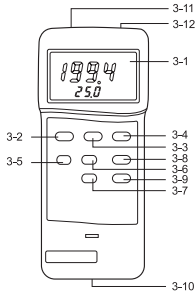

Fig. 1
1. Push the "power off button" (3-2, Fig. 1) to let the instrument power "ON".
2. Determine temperature unit to °C or °F by pushing the "°C/°F Button" (3-4, Fig. 1) Then the display will show the temperature unit of °C or °F.
(3-8, Fig. 1) until the display show the marker "T1" display will show the temperature reading that measured from the probe.
- a. Insert second temperature probe plug into the "T1 Socket" (3-11, Fig. 1).
- b. Insert second temperature probe plug into the "T2 Socket" (3-12, Fig. 1).
- c. The main display (upper display) will show the temperature reading of the first probe (T1) & the lower display will show the temperature reading of second probe (T2), push the "Function Button" (3-8, Fig. 1) until "T1" appears on the display.
- d. The main display (upper display) will show the temperature reading of second probe (T2) & the lower display will show the temperature reading of the first probe (T1), push the "Function Button" (3-8, Fig. 1) until "T2" appears on the display.
- e. The main display (upper display) will show the differential temperature reading of the first and second probe (T1-T2) and the lower display will show the temperature reading of the first probe (T1), push the "Function Button" (3-8, Fig. 1) until "T1-T2" appears on the display.
1. During the measurement. Push the "Data Hold Button" (3-3, Fig. 1) will hold the display values & LCD will show the "D.H" marker.
1. The DATA RECORD function displays the maximum, and minimum readings. To start the DATA RECORD function, press the "Record Button" (3-6, Fig. 1) once. "REC" will appear on the LCD display.
- a. Push the "CALL Button" (3-7, Fig. 1) once, then the "Max" marker along with the maximum values will appear on the LCD display.
When the left corner of LCD display shows "LBT", it indicates a normal battery output of less than 6.5V – 7.5V. It is necessary to replace the battery. However, in—spec measurement may still be made for several hours after low battery indicator appears before the instrument becomes inaccurate. Slide the Battery Cover (3-10, Fig. 1) away from the instrument and remove the battery. Replace with 9V battery (heavy duty type) and replace the cover. Make sure the battery cover is secured after changing the battery.